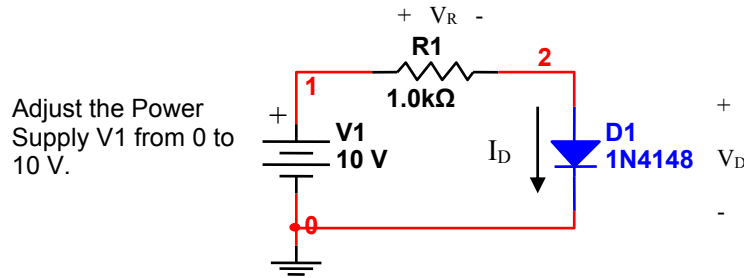

Figure 1-1.
- 1.1. Build the circuit shown in Fig. 1-1 using the 1N4148 diode and a 1k Ω resistor. Vary V_1 from 0 to 10V in appropriate intervals to obtain enough data points to plot the *Forward Bias V-I Characteristic* of the diode.